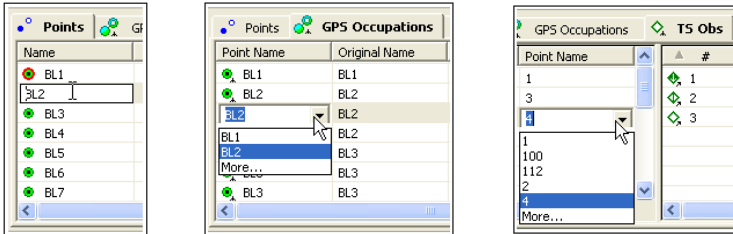

Figure 5-13. Select Point Name to Edit
1. Click a highlighted point name cell, or press **F2** (Figure 5-13). To select data with certain parameters, use the appropriate dialog box (see “Selecting Data” on page 4-37 for details).